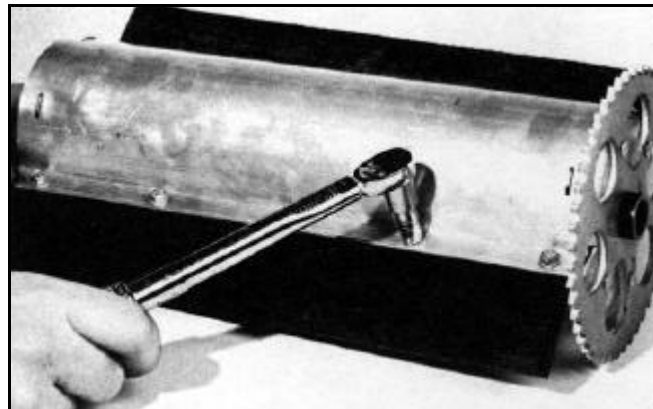

Figure 120
9. After fitting the new end caps in position, slide the paddles into position and reinstall the screws (Figure 120). The screws that hold the impeller assembly together should be torqued to 15 in-lbs. (DO NOT OVERTORQUE!)
9. Slide the paddles into position and torque the screws to 15 in-lbs (Figure 120). (DO NOT OVERTORQUE!)